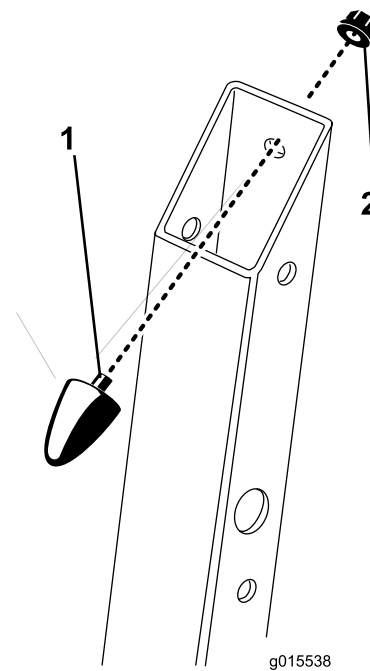

Figure 9
- If the conical rubber bumpers are not pre-installed, unlock the rollbar and put it in the down position. Install the conical rubber bumpers inside the cutout at the top of the rollbar supports as shown in Figure 9. Secure them using the 5/16 inch flange nuts.